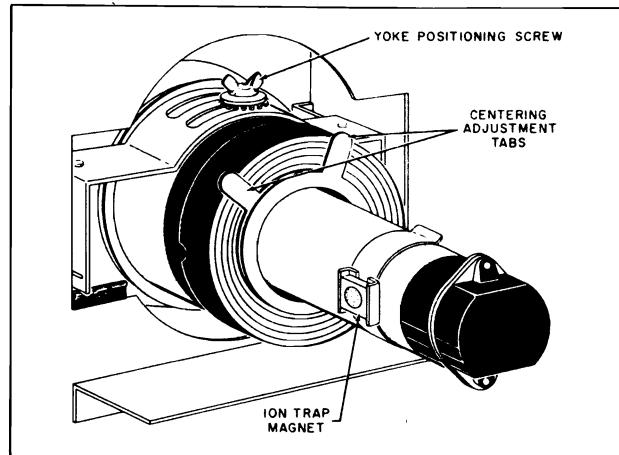

Figure 1
- 3—Move the centering adjustment (figure 1) clockwise and counter-clockwise around the neck of the tube until the picture is properly centered.
If the picture is tilted, so that the scanning lines in the raster are not horizontal, loosen the Yoke Positioning Screw (figure 1) and move it to the right or left until the picture is properly aligned with the edges of the mask.
- 1—Remove the cabinet back and position the magnet as shown in figure 1. If the receiver is a console apply power through a spare power cord.